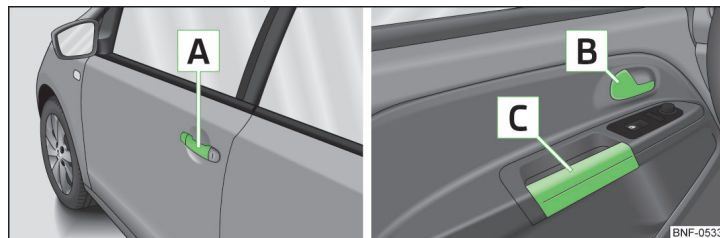

Fig. 26 Door handle/door opening lever:
- Pull on door handle **A** » Fig. 26 on the door you wish to open.